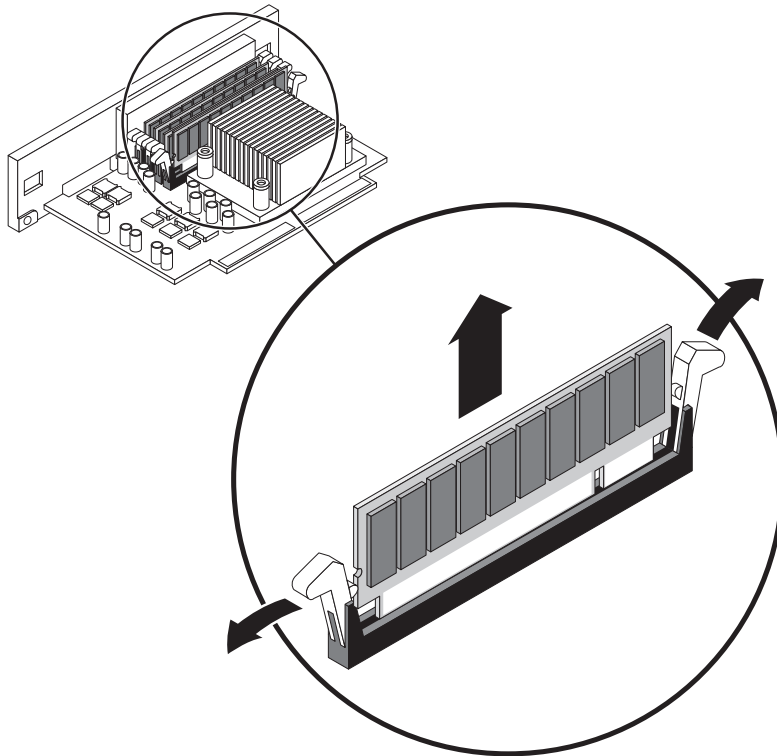

FIGURE 4-22 Removing a Memory Module
6. Push down on the ejector levers on each side of the memory module, simultaneously, until the memory module ejects from its socket (FIGURE 4-22). Apply even pressure on both levers.